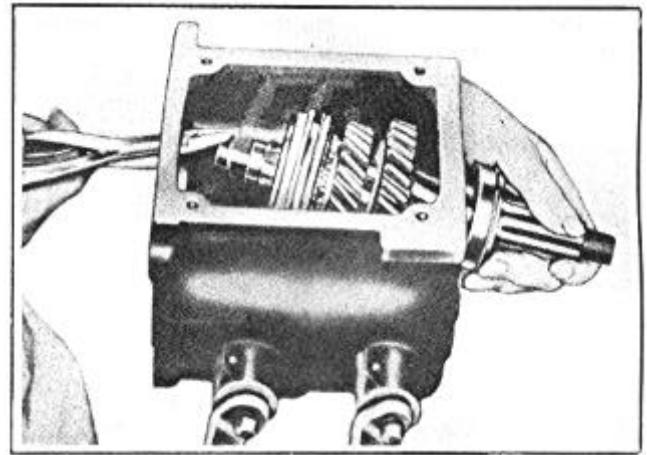

FIGURE 35
13. Using snap ring pliers, remove snap ring from front end of mainshaft, Figure 35.